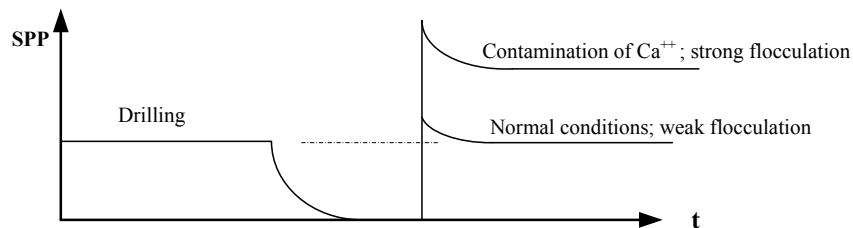

Figure 1-8c: Rheological response when drilling into contaminants.
- c) The edge-to-face flocculation is weak electrostatic forces and is easily broken when sheared. The Ca^{++} ion binds two clay platelets in a much stronger grip, and is not easily broken as indicated in Figure 1-8c.